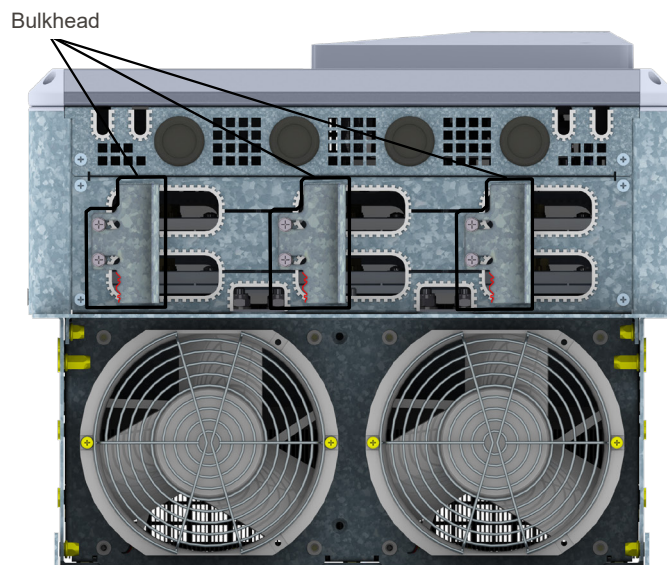

Figure 3.17: Mounting 4, 5, 6 and 7
|               | ND                 | 480 | 2   | 350             | 185                          | 2                 | 1               | 50                           | 4 - With bulkhead, break knockout (See <a href="#">Figure 3.17 on page 32</a> )  |
| CFW900G0540T4 | HD                 | 480 | 2   | 350             | 185                          | 2                 | 1               | 50                           | 5 - With bulkhead, break knockout (See <a href="#">Figure 3.17 on page 32</a> )  |
|               | ND                 | 540 | 3   | 4/0             | 95                           | 2                 | 1/0             | 50                           | 6 - With bulkhead, break knockout (See <a href="#">Figure 3.17 on page 32</a> )  |
| CFW900G0601T4 | HD                 | 515 | 3   | 4/0             | 95                           | 2                 | 1               | 50                           | 7 - With bulkhead, break knockout (See <a href="#">Figure 3.17 on page 32</a> )  |
|               | ND (2)  | 289 | 2   | 3/0             | 95                           | 2                 | 4               | 25                           | 12 - With bulkhead, break knockout (See <a href="#">Figure 3.17 on page 32</a> ) |
| CFW900G0336T6 | HD (2)  | 289 | 2   | 3/0             | 95                           | 2                 | 4               | 25                           | 13 - With bulkhead, break knockout (See <a href="#">Figure 3.17 on page 32</a> ) |
|               | ND (2)  | 336 | 2   | 4/0             | 120                          | 2                 | 4               | 25                           | 14 - With bulkhead, break knockout (See <a href="#">Figure 3.17 on page 32</a> ) |
|               | ND (3)  | 326 | 2   | 4/0             | 120                          | 2                 | 4               | 25                           | 20 - With bulkhead, break knockout (See <a href="#">Figure 3.17 on page 32</a> ) |